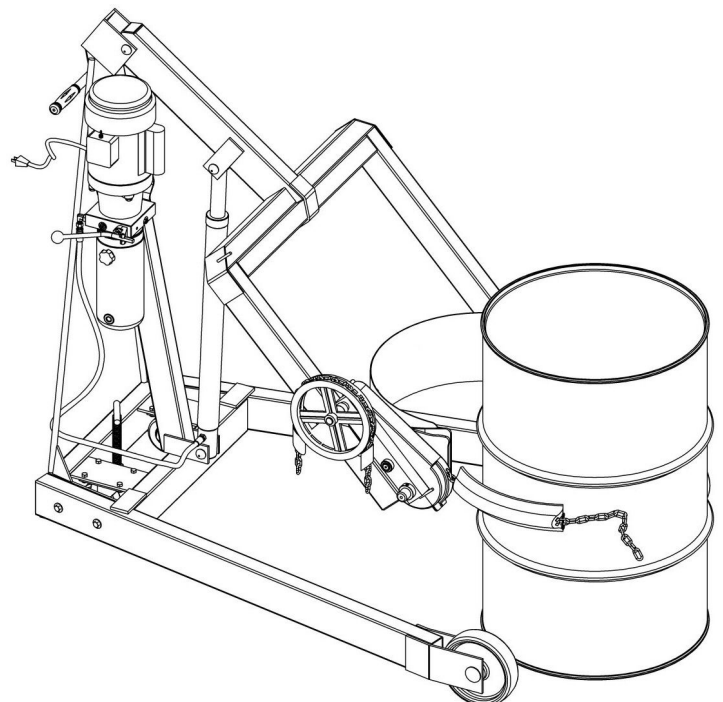

Figure 3.1
The step-down floor lock is located behind the base (figure 3.1). To activate, step down on the floor lock until it locks in down position. When floor lock is activated it prevents unwanted free wheeling of unit. Floor conditions determine effectiveness of floor lock. Operator should verify its holding action before depending on it to hold.
- 2.) Using "LIFT" control as described in "**Machine Description - Controls**", position drum holder assembly with back band at middle of drum (Figure 3.1). With ratchet plate swung open and cinch chain hanging from chain hook, push unit until back band rests firmly against drum. Some adjustment to tilt angle of saddle may be necessary to ensure band fits flush on drum.